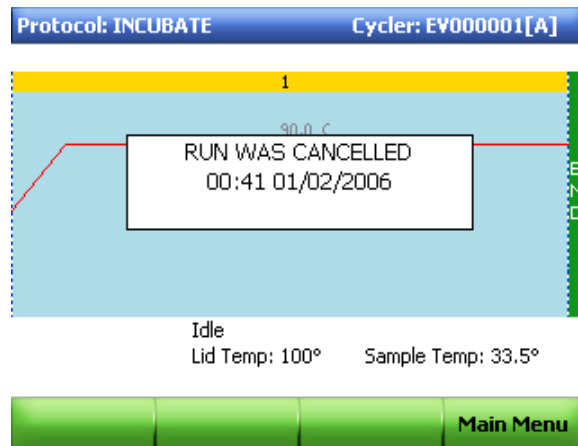

Figure 70. View the cancelled screen.
4. To end the incubation and view the final cancelled screen (Figure 70), select **Cancel Run**.